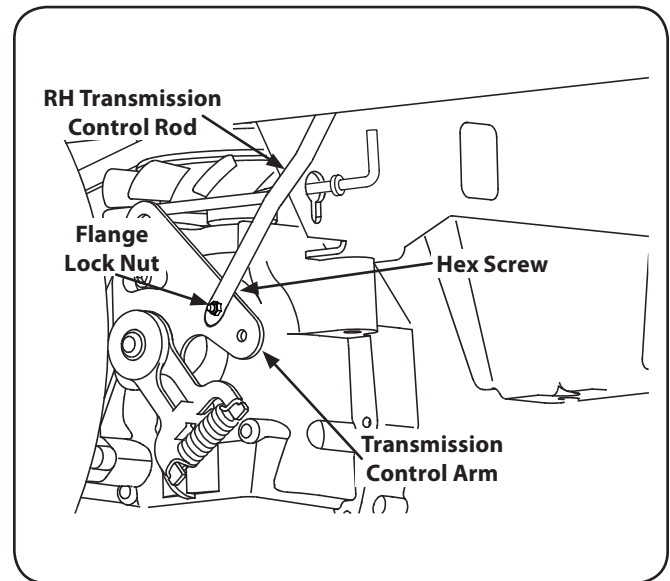

Figure 7-8
4. If only one wheel is rotating, locate the transmission control rod beneath the frame at the front of the rear tire. If both wheels rotate, locate both control rods. See Fig. 7-8.